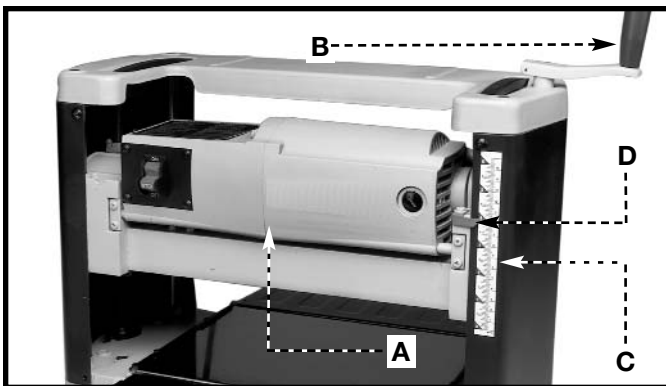

Fig. 15
The head assembly (A) Fig. 15 contains the cutterhead feed rollers, chip deflector and motor. Raising and lowering the head assembly controls the depth-of-cut on your planer. To raise or lower the head assembly, rotate the handle (B).
NOTE: One revolution of the raising and lowering handle (B) Fig. 15 will move the cutterhead up or down 5/64" (1.9mm).
1. Lower the head assembly by turning the handle (B) Fig. 15.
⚠ WARNING Turn the head assembly by turning the handle (B) Fig. 15.